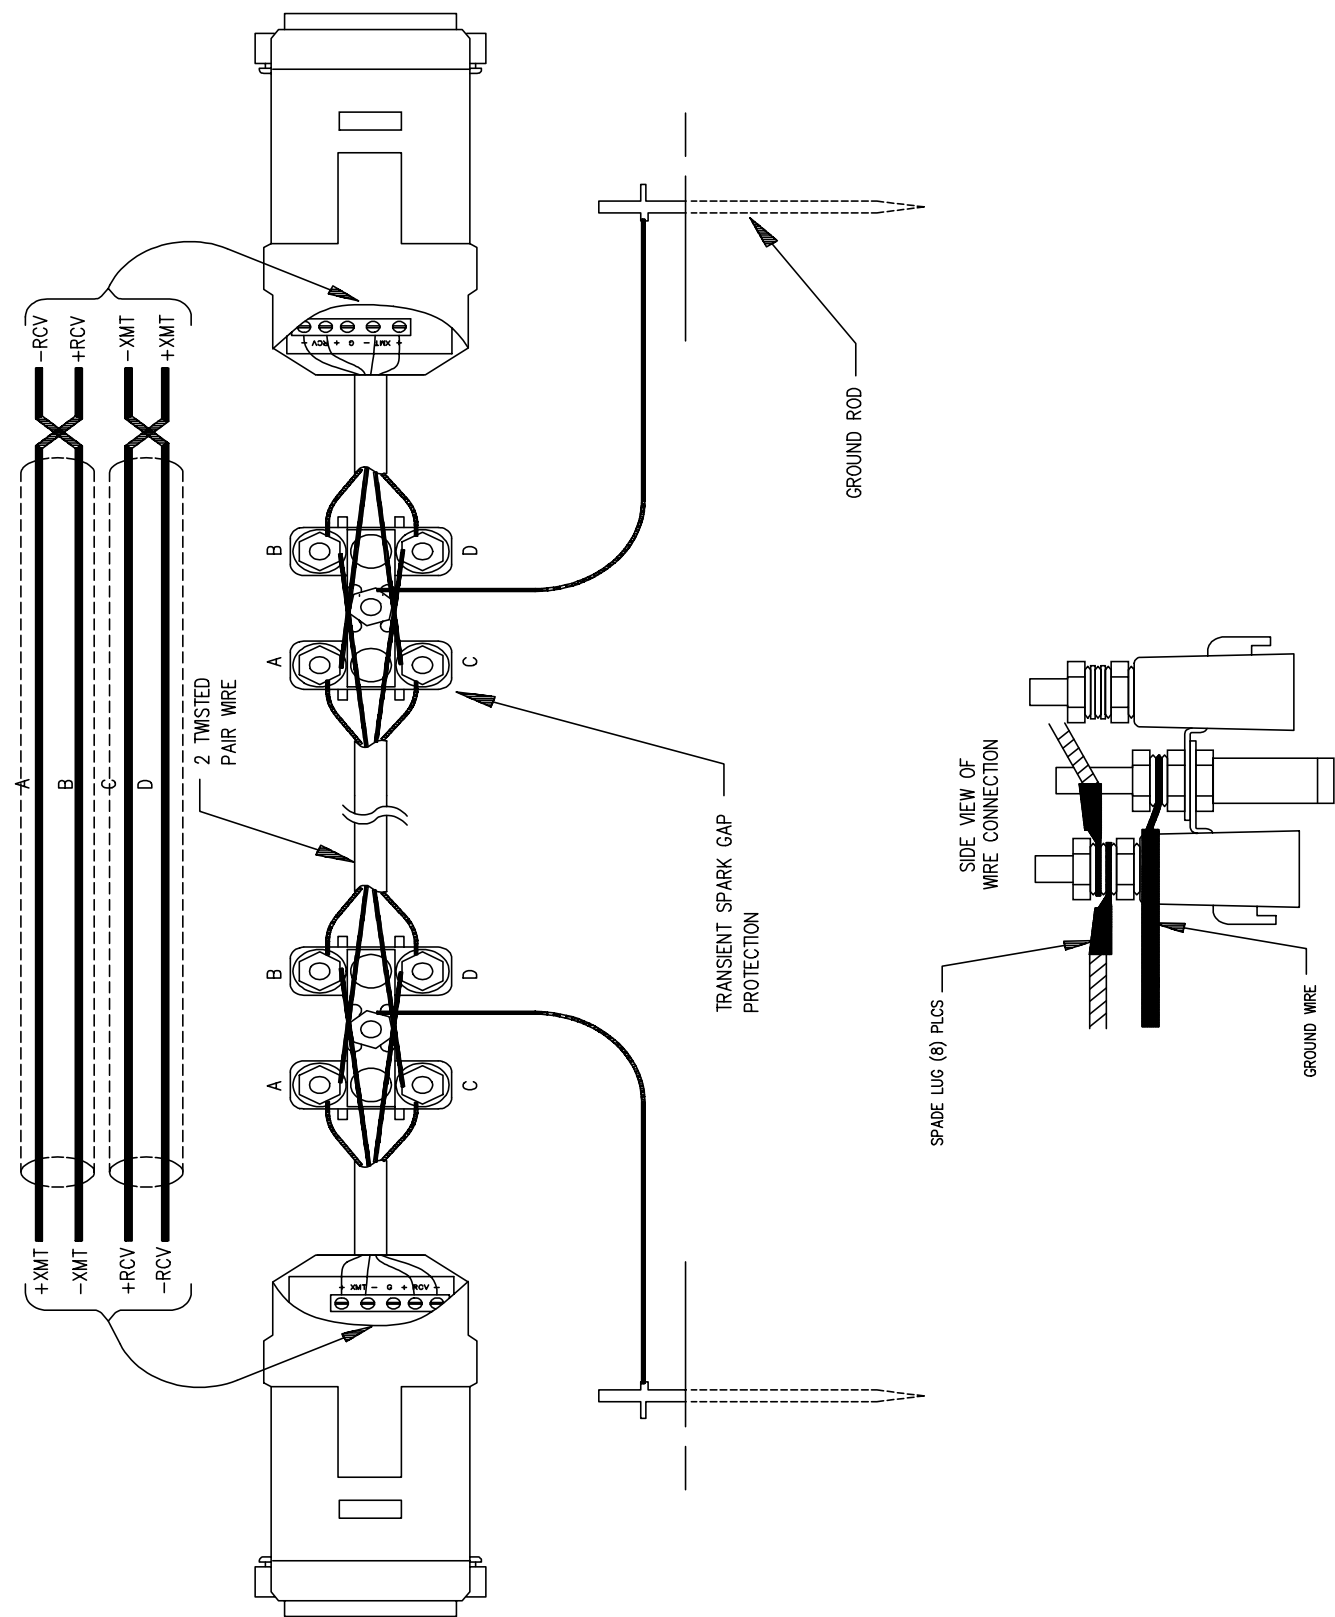

FIGURE 1.8-1. RAD Modem Connection and Grounding
The SRM-6A Rad Modem consists of two modems, one at the datalogger site and one at the computer site. The modem at the datalogger site is connected to the CR10 through the SC932. The modem at the computer site is connected to the computer through a 25 pin RS232 serial port. The two modems are connected via 4-wire unconditioned telephone line, or two twisted pairs. (Figures 1.8-1 and 1.8-2)
Figure 1.8-1 shows a typical setup of the RAD modems. Installation is as follows:
2. Disassemble the SRM-6A Modem to connect the wire. Wiring connections are made as shown in Figure 1.8-1. Note wires labeled A and B are one twisted pair of the cable. Wires labeled C and D are the other twisted pair. Make sure that the switch inside both modems is configured for DCE.
3. Transients induced on the communication line may damage any electronics connected at either end of the line. To decrease the chances for damage, spark gaps are installed at each end as shown in Figure 1.8-1.